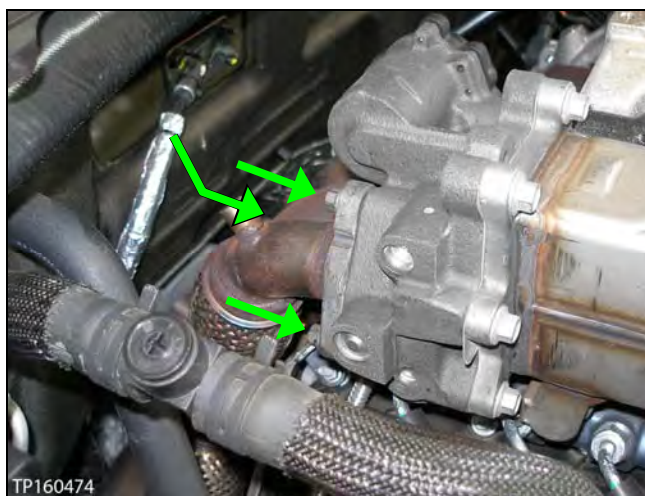

Figure 27
18. Remove the three (3) EGR valve inlet pipe bolts (see Figure 27).
- The third bolt cannot be seen in Figure 27.